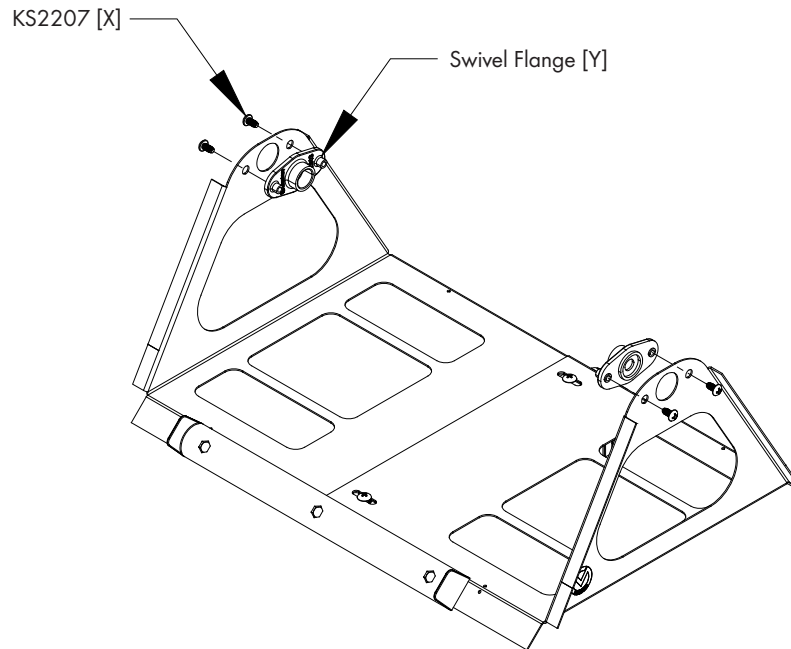

Figure 5
Attach Swivel Flange [Y] to the inside of each of the Carrier Arms with (2) KS2207 Screw [D]. See Figure 5.